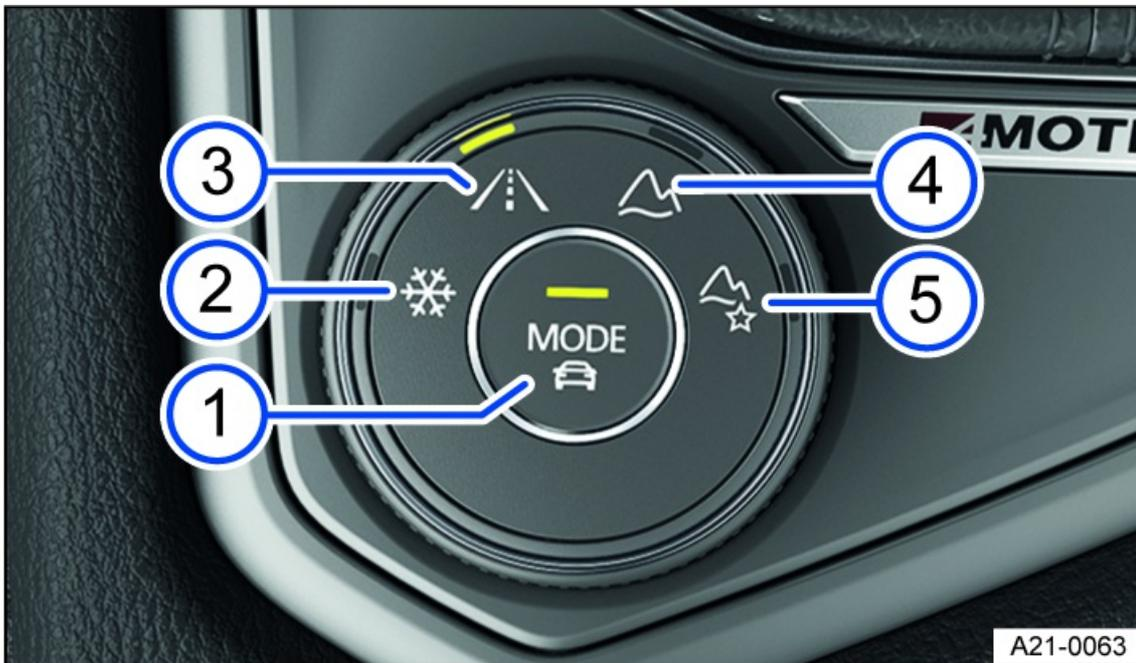

Fig. 100 In the center armrest: 4MOTION Active Control rotary switch.
- ① MODE button: select onroad driving modes and open the menu in the Infotainment system.
- ② Snow driving mode
- ③ Onroad driving mode
- ④ Offroad driving mode
- ⑤ Offroad Custom driving mode
1. Turn the dial until the LED next to the preferred driving mode comes on *fig. 100*.
2. To switch to the onroad driving modes, press the  button on the dial *fig. 100* ① or tap **Onroad driving mode** in the Infotainment system.
Or: if the Offroad Custom driving mode is already selected, press  on the dial *fig. 100* ①.